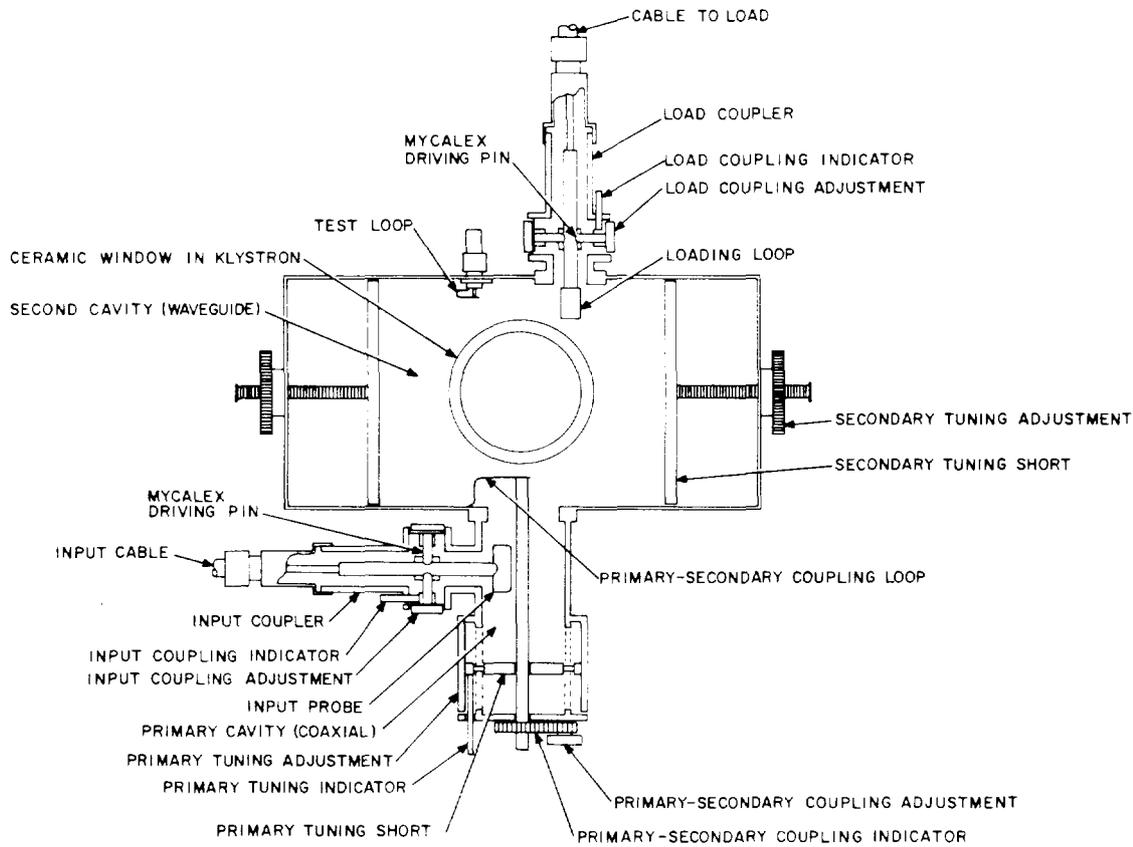

Fig. 12—Input Cavity Assembly
C. Replacing Mycalex Driving Pins in Input and Intermediate Cavity Load Couplers (Fig. 12 and 13)